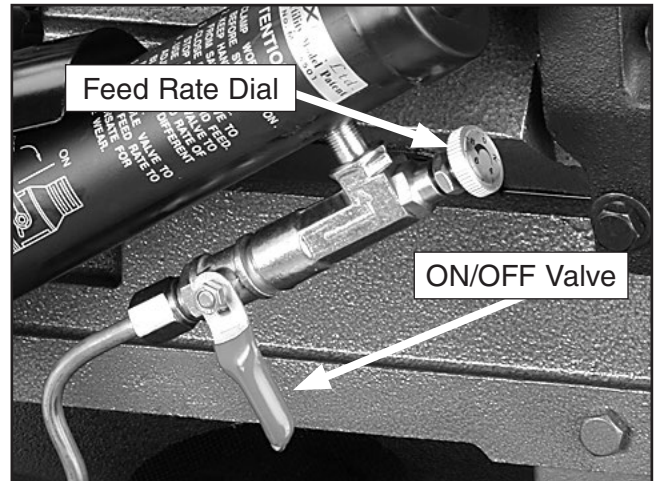

Figure 20. Feed rate dial.
4. Close the feed ON/OFF valve **Figure 20**, to lock the headstock and blade a few inches above the workpiece.
6. Slowly rotate the feed rate dial clockwise to a slow feed rate until the saw begins to cut the workpiece (see **Figure 20**).